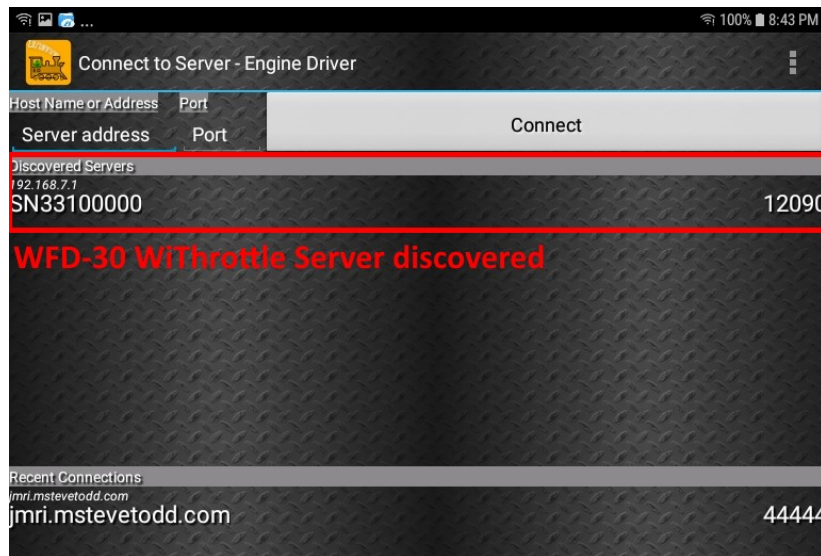

Figure 20 The WFD-30/31 WiThrottle Server is discovered by the Engine Driver app on Android
- (8) On the Apps find the Engine Driver app icon – you may have to swipe right - (for convenience you could add a shortcut to your Home Screen), then tap it:
- (9) Go through the setup sequence, accepting all the defaults and allowing the required privileges.
- (10) After setup, you should see the “Connect to Server” page with your WFD-30/31 listed as a “Discovered Server” as Figure 20. Tap on it to connect. The green network LED on your WFD-30 should now flash regularly to show that the UWT-100 is communicating with it. On the WFD-31, the LED should begin to flash white.